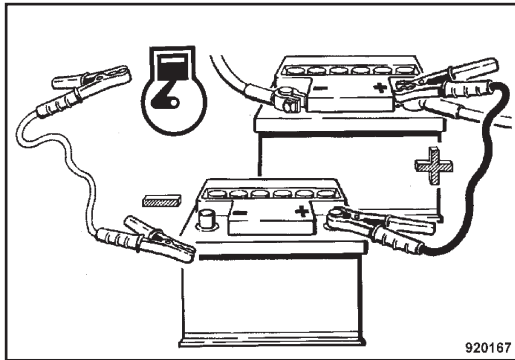

Fig. 40
- Then connect the ground cable first to the minus pole of the current supplying auxiliary battery and then to engine or chassis ground, as far away from the battery as possible (Fig. 40).